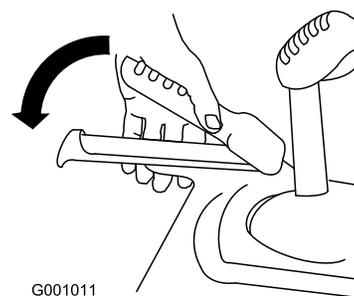

Figure 35
1. To engage the traction drive, squeeze the left (traction) lever to the handgrip (Figure 35).